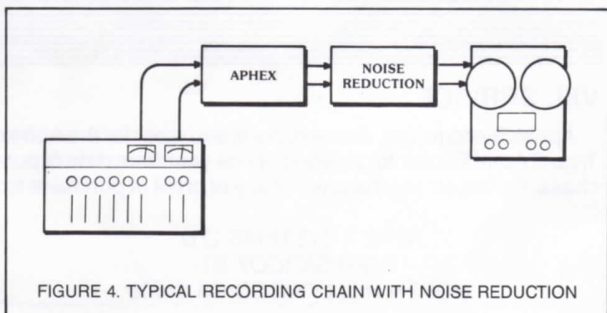

FIGURE 4. TYPICAL RECORDING CHAIN WITH NOISE REDUCTION
A. One of the easiest ways to add Aural Excitement to your recordings is to insert the unit between the stereo outputs of the mixing console and the inputs to the mastering recorder. The Aural Exciter should be placed ahead of a noise reduction system, if you use one (figure 4).